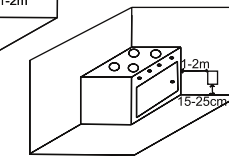

Figure 5
- LPG exists in lower side of the room, install the detector due to Figure 5.